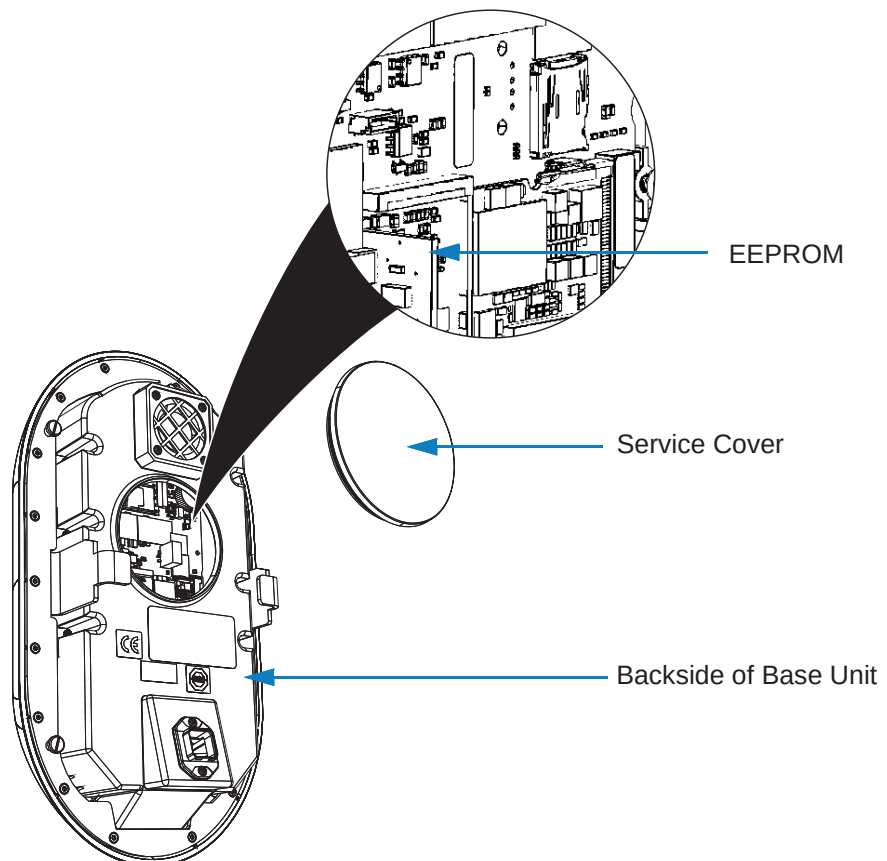

Figure 4-11 Location of EEPROM
- Step 2** If necessary, remove the EEPROM contained, see **Figure 4-11**.